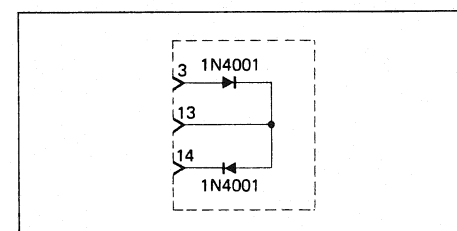

Fig. 4.2
- Adapter circuit according to Fig. 4.2
- Install the adapter circuit according to Fig. 4.2 in place of the BIAS CONTROL PCB.